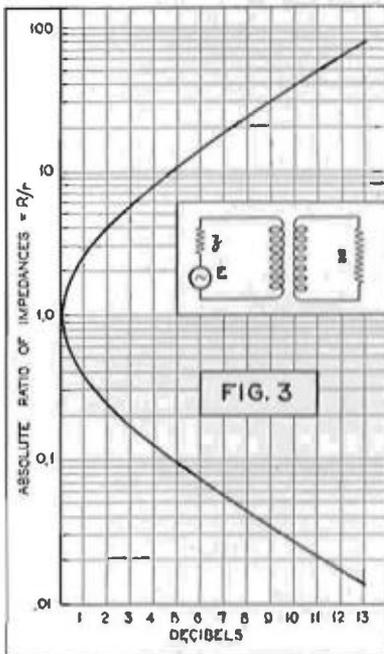

Fig. 3. Transformer loss curve. Showing gain obtained by inserting ideal transformer at junction of two circuits whose impedances are  $Z_0$  and  $Z_L$ .
Fig. 3 shows the graph of (3), (5) and (6), all of which are identical.